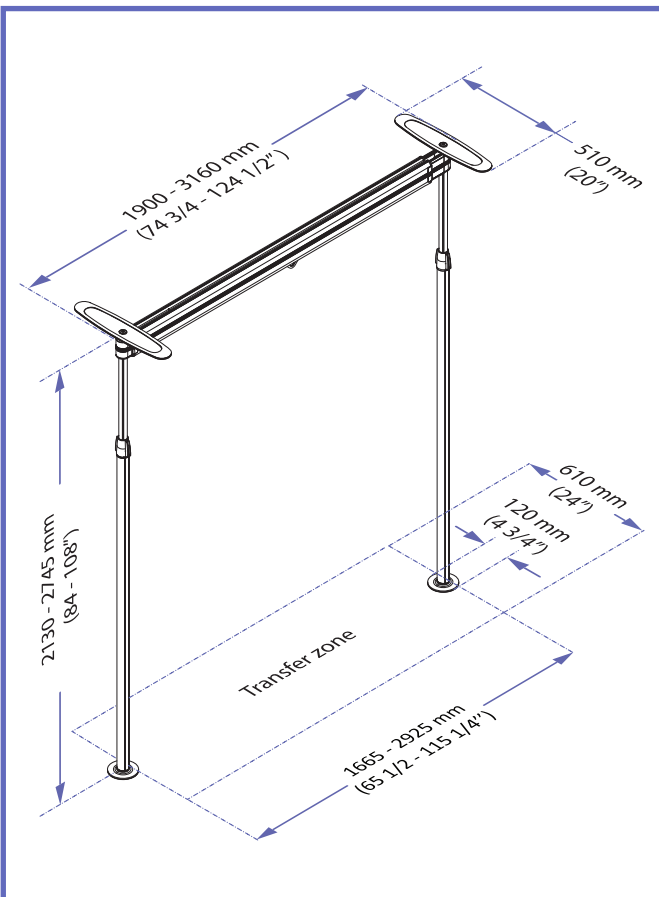

Fig. 5
- 3) Transfers should only take place between the *EASYTRACK* System’s posts, see Fig. 5.